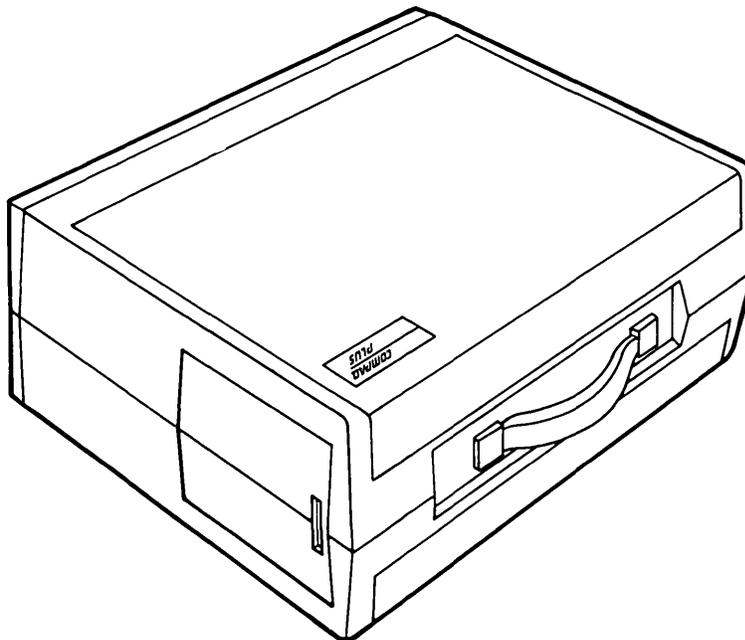

Figure 10-8. Computer On Work Surface.
- 1 Place the computer on a level surface, such as a table or workbench with the handle assembly facing you (see Figure 10-8).
6. Your card has both RS-232 and current-loop interfaces. For RS-232 operation, place the shunt module in location U11 with the dot up (see Figure 10-8). For (20-ma) current-loop operation, switch the module in the socket so that the locator dot is down (toward bottom edge connector).